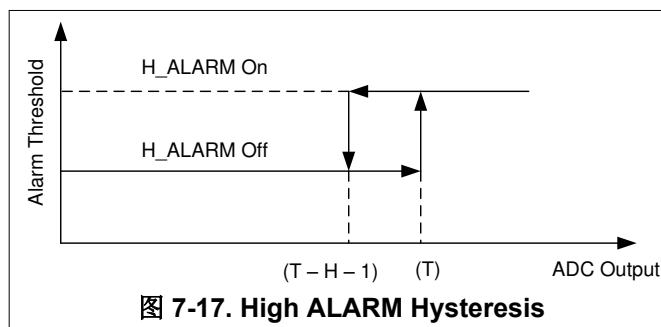

图 7-17. High ALARM Hysteresis
The device sets the input high alarm when the digital output exceeds the high alarm upper limit [high alarm threshold (T)]. The alarm resets when the digital output is less than or equal to the high alarm lower limit [high alarm (T) - H - 1]. This function is shown in 图 7-17.